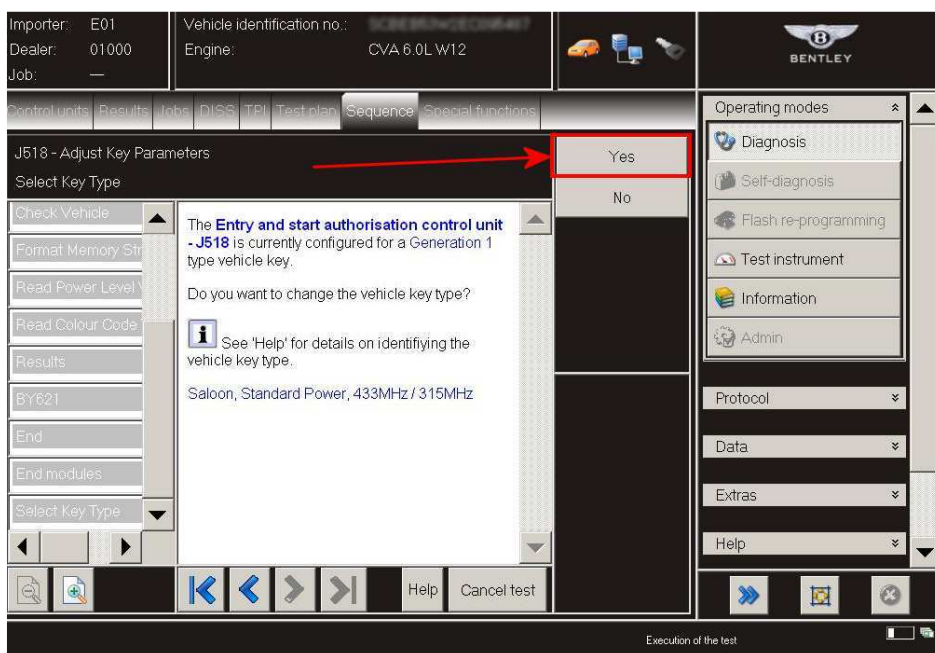

Figure 8
1. Referring to Figure 8, select Yes and follow all on screen prompts